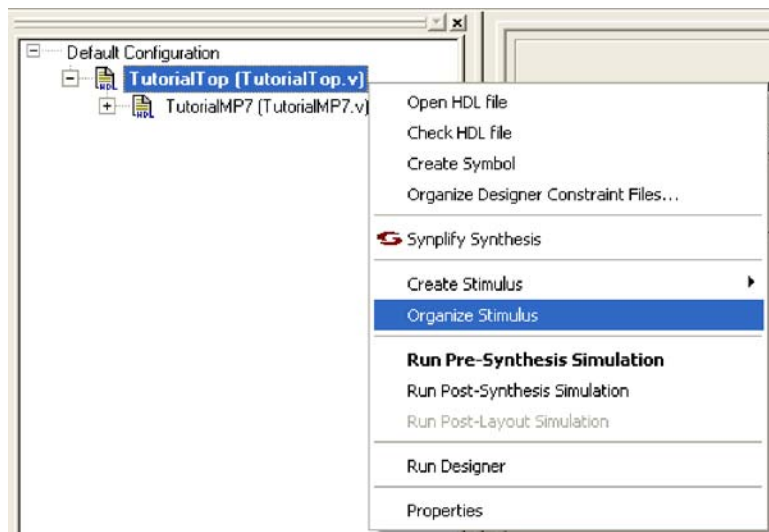

Figure 5-27. Design Hierarchy Context Menu
1. From the **Design Hierarchy** tab, right-click the *TutorialTop.v* file and select **Organize Stimulus**, as shown in Figure 5-27.